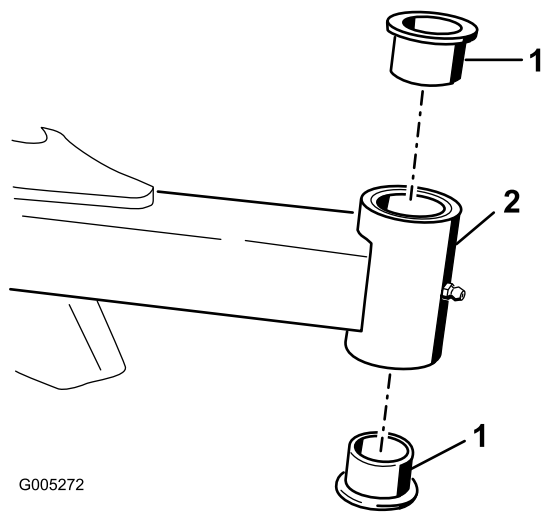

Figure 17
4. Insert a pin punch into the top or bottom of the mounting tube and drive the bushing out of the tube (Figure 17). Also, drive the other bushing out of the tube. Clean the inside of the tubes to remove dirt.